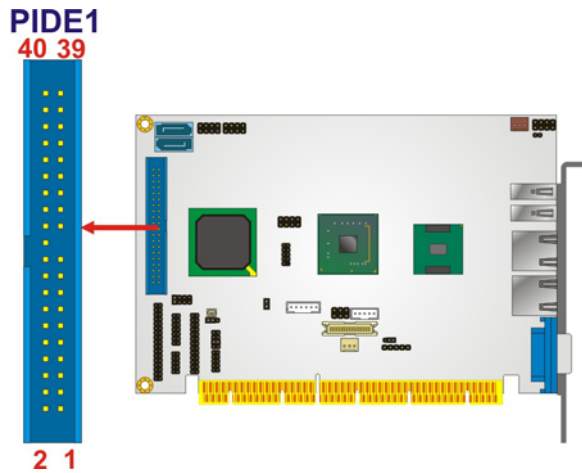

Figure 4-13: IDE Device Connector Locations
- CN Location:** See **Figure 4-13**